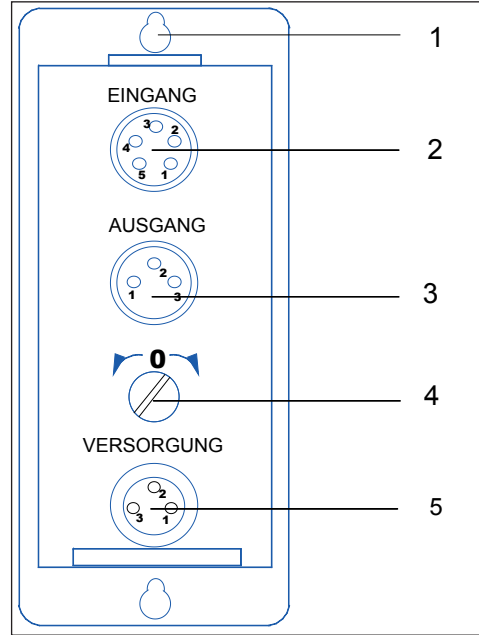

Fig. 1
3. Set the output voltage at the 1901/TA to zero within a range of max. $\pm 10 \mu\text{m}$ using the zero setter (3, Abb. 1).